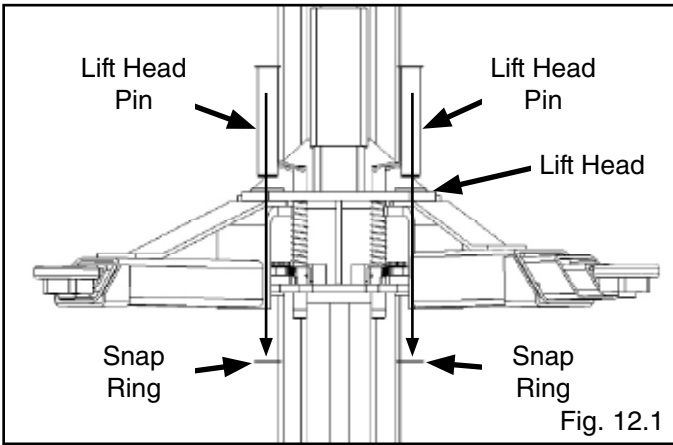

Fig. 12.1
2. Install the lift head pins into the lift head and through the holes in the arm assembly. (See Fig. 12.1)